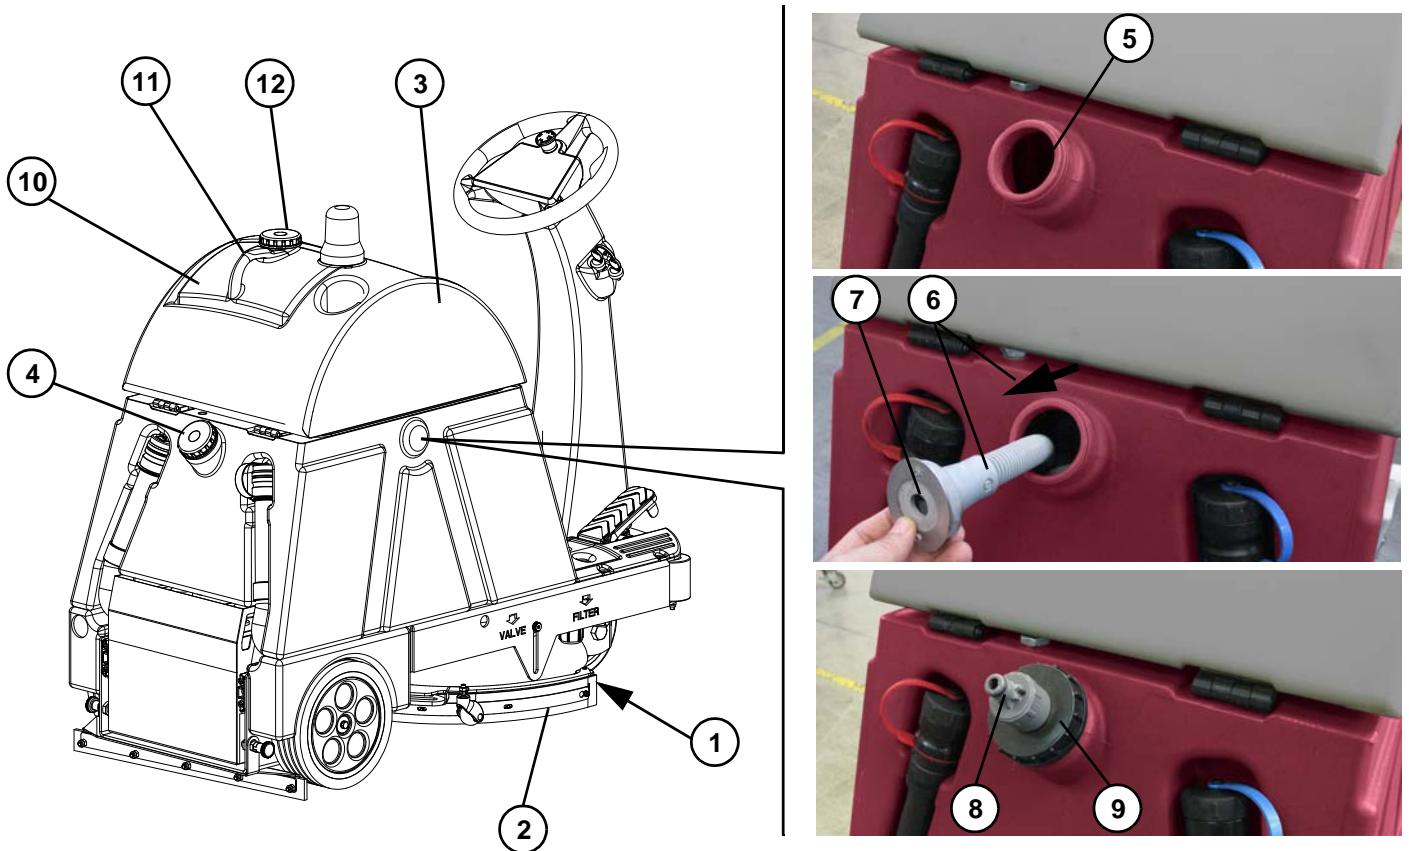

Figure 4-1
1. Visually check that the wash-and-dry machine is in good conditions; check that the disc brush (1, **Figure 4-1**) (or the cylindrical brushes) and the squeegee (2) are present and in good conditions.
2. Raise the cover (3, **Figure 4-1**) with its handle and check that the water recovery tank is empty, otherwise proceed with the emptying by acting as described in the related paragraph “tanks emptying”.
Unscrew the stopper (4, **Figure 4-1**), then introduce water through its nozzle (5).
Unscrew the stopper (4, **Figure 4-1**), then extract the extractable hose (6) and position its opening (7) under a water tap and fill the tank. Once the filling is completed, insert the extractable hose in its place (6, **Figure 4-1**) and screw the stopper (4).
5. (Version with quick connect stopper) Connect the water pipe equipped with a proper quick connection to the stopper (9) quick connection (8, **Figure 4-1**), then open the pipe tap, and let the water flow into the tank. Upon reaching the full tank, the water flow will
6. If present, remove the stopper (4, **Figure 4-1**) and add the detergent to the clean water present in the tank; follow the dilution instructions indicated on the label of the detergent container itself.
7. If necessary, it is possible to remove the detergent tank from the wash-and-dry machine (10, **Figure 4-1**), by seizing its handle (11) and raising it.
8. Unscrew the stopper (12).
9. Introduce the washing detergent into the tank (10, **Figure 4-1**), then screw the stopper (12).
10. If removed, reinsert the tank (10, **Figure 4-1**) to its place in the wash-and-dry machine.